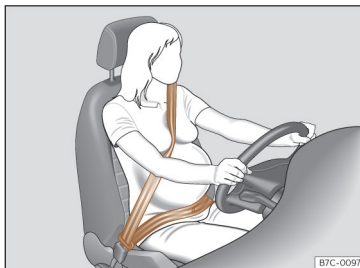

Fig. 26 Position of seat belt during pregnancy.
In the case of **pregnant women**, the seat belt should pass uniformly over the chest and as low as possible through the pelvic area with the strap flat so it does not press down on the abdomen; in addition, it must be used throughout the entire pregnancy >>> **Fig. 26**.
- In the case of pregnant women, the abdominal strap of the seat belt should pass as low as possible across the pelvic area, resting flat and “surrounding” the abdomen >>> Fig. 26.